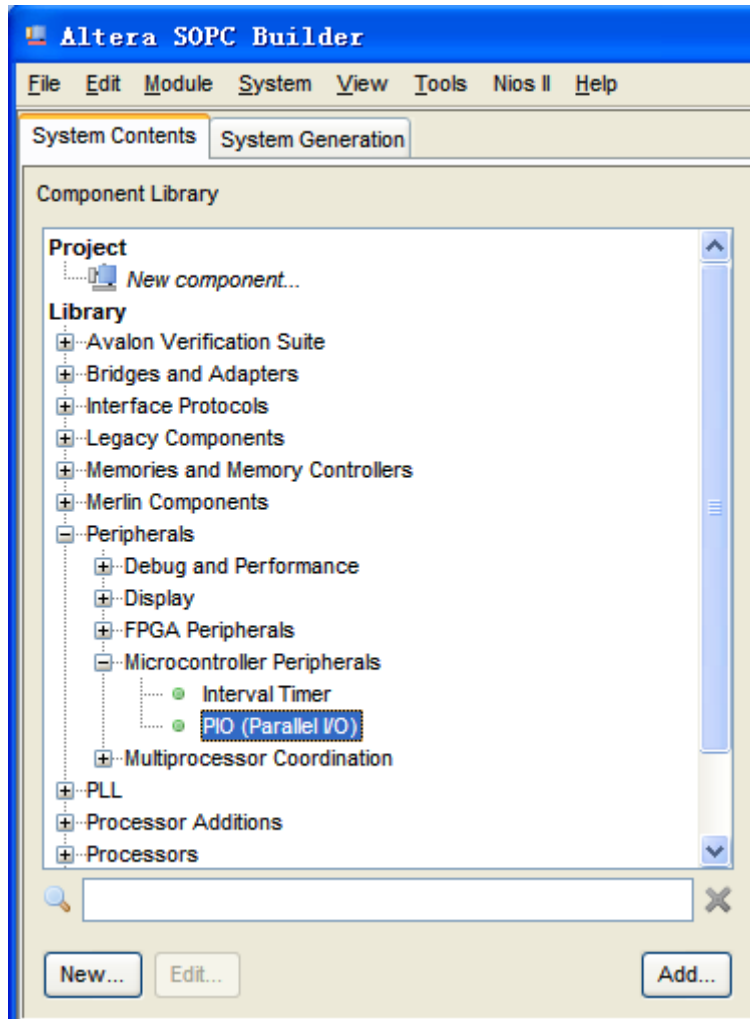
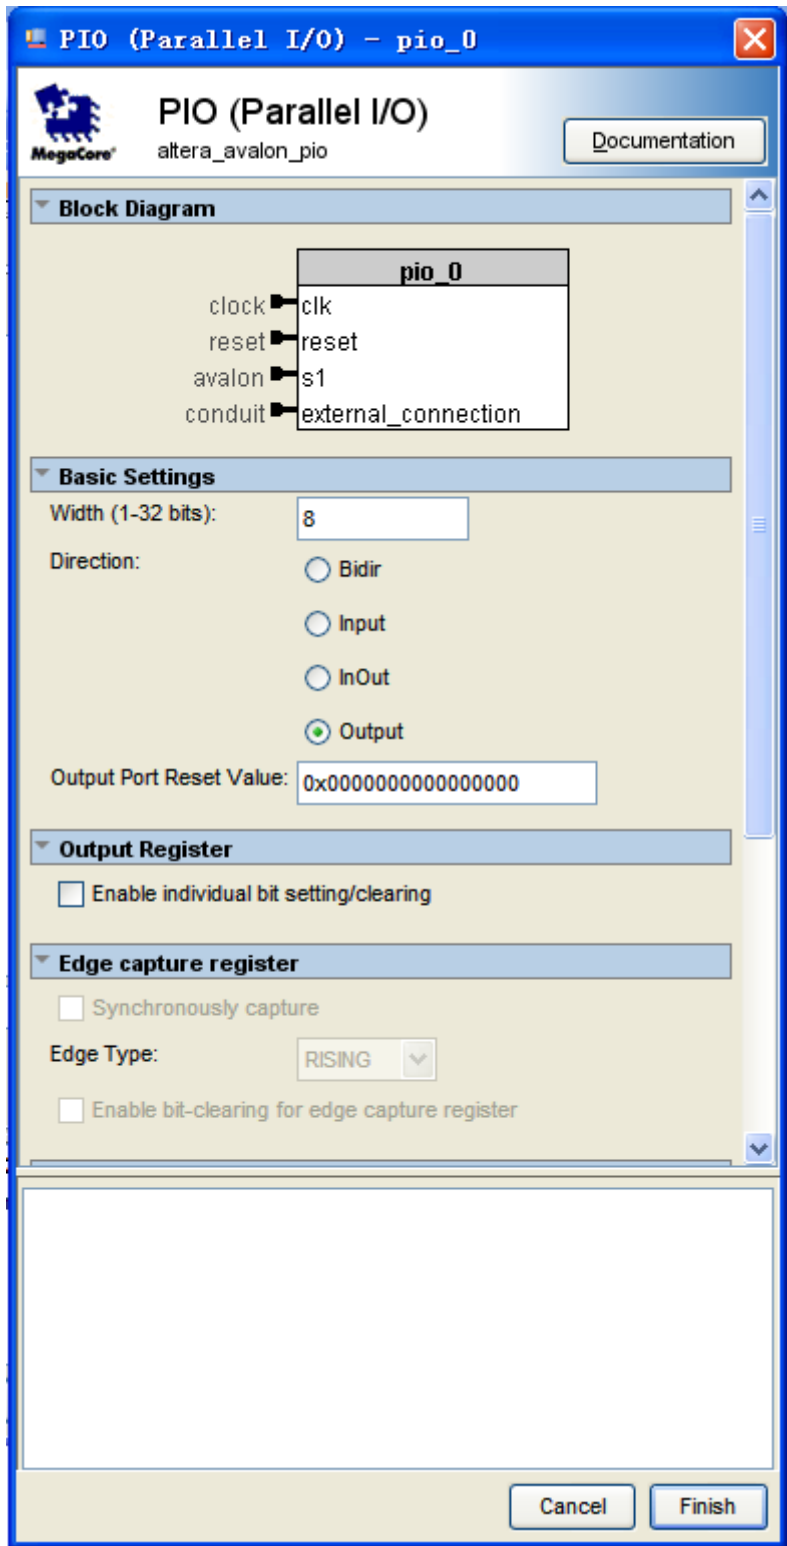

Figure 7-30 Add PIO
Figure 7-31 Add PIO
19. Add the **Library > Peripherals > Microcontroller Peripherals >PIO (Parallel I/O)** component to the system, as shown in **Figure 7-30** and **Figure 7-31**.